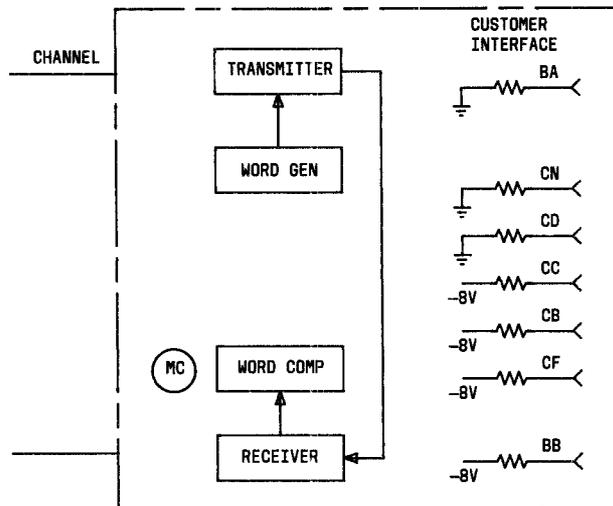

Fig. 5—Analog Loopback Self Test—Simplified Block Diagram
4.03 The analog loopback self test checks the data set transmitter and receiver (Fig. 5). The customer interface is not checked. Test data (dotting pattern) generated by the data set is looped from the transmitter output to the receiver input. The received data is compared to the transmitted data. This test can be performed in either the high-speed or low-speed mode. If the data set is operating in the low-speed mode, the MC lamp blinks if the distortion threshold (25 percent) is exceeded. If the data set is operating in the high-speed mode, the MC lamp blinks if a bit error is detected in the received data. The speed is